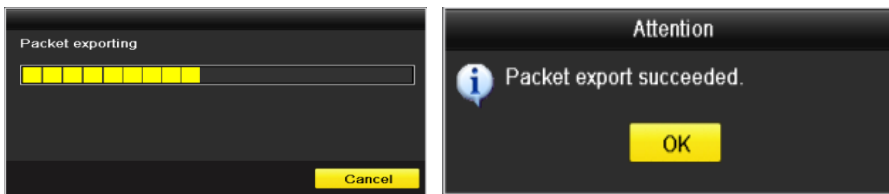

Figure 12-33 Packet Export Attention
Step 5 After the exporting is complete, click **OK** to finish the packet export, as shown in Figure 12-33.